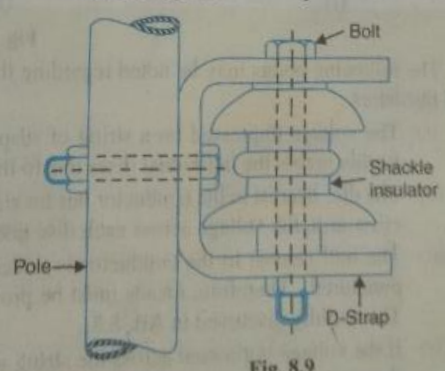

Fig. 8.9
**Shackle insulators.** In early days, the shackle insulators were used as strain insulators. But now a days, they are frequently used for low voltage distribution lines. Such insulators can be used either in a horizontal position or in a vertical position. They can be directly fixed to the pole with a bolt to the cross arm. Fig. 8.9 shows a shackle insulator fixed to the pole. The conductor in the ground is fixed with a soft binding wire.